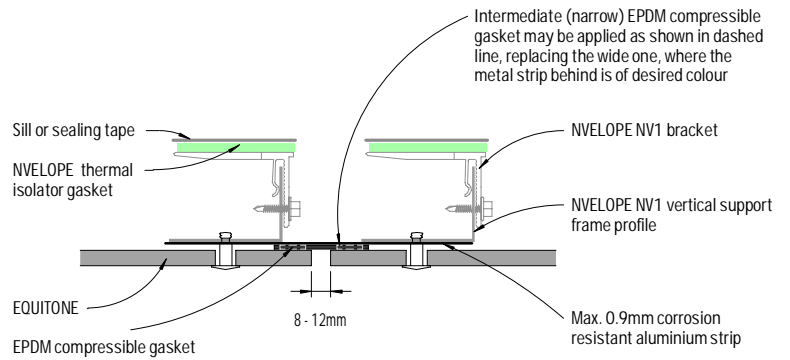

Figure 6: Vertical joint - Detail 2
- 3) In Figure 6 & 7, the aluminium strip should be fixed ONLY to one of the support frame profiles (either left or right) where allowance for horizontal and/or vertical movement of the cladding frame is required.